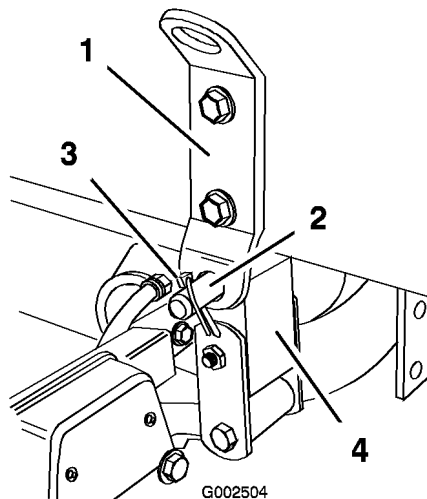

Figure 19
5. Line up the pivot lug at the rear of the tank skid assembly with the opening at the end of the vehicle frame (Figure 19).
6. Install a clevis pin (3/4 inch) and two lynch pins to the pivot lug to secure the tank assembly to frame (Figure 19).